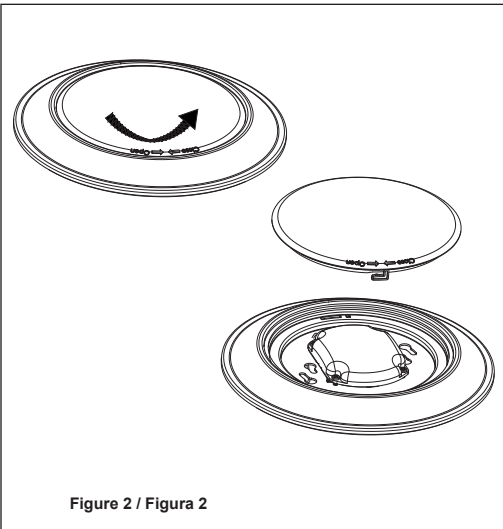

Figure 2 / Figura 2
2. Remove the fixture lens by rotating toward OPEN direction to access fixture mounting keyholes.(see Figure 2)